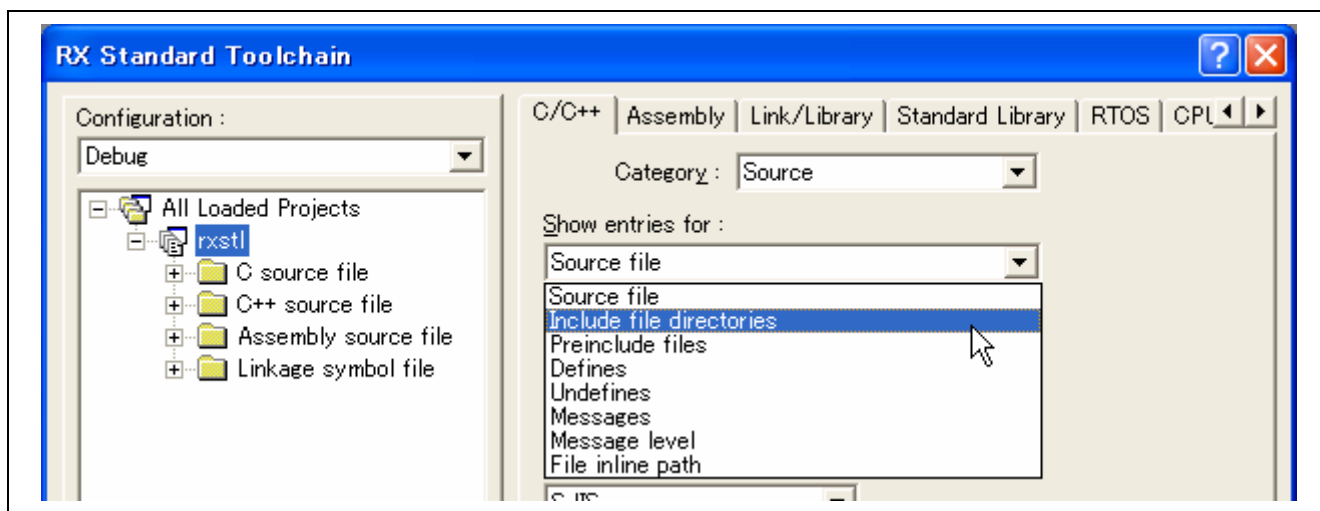
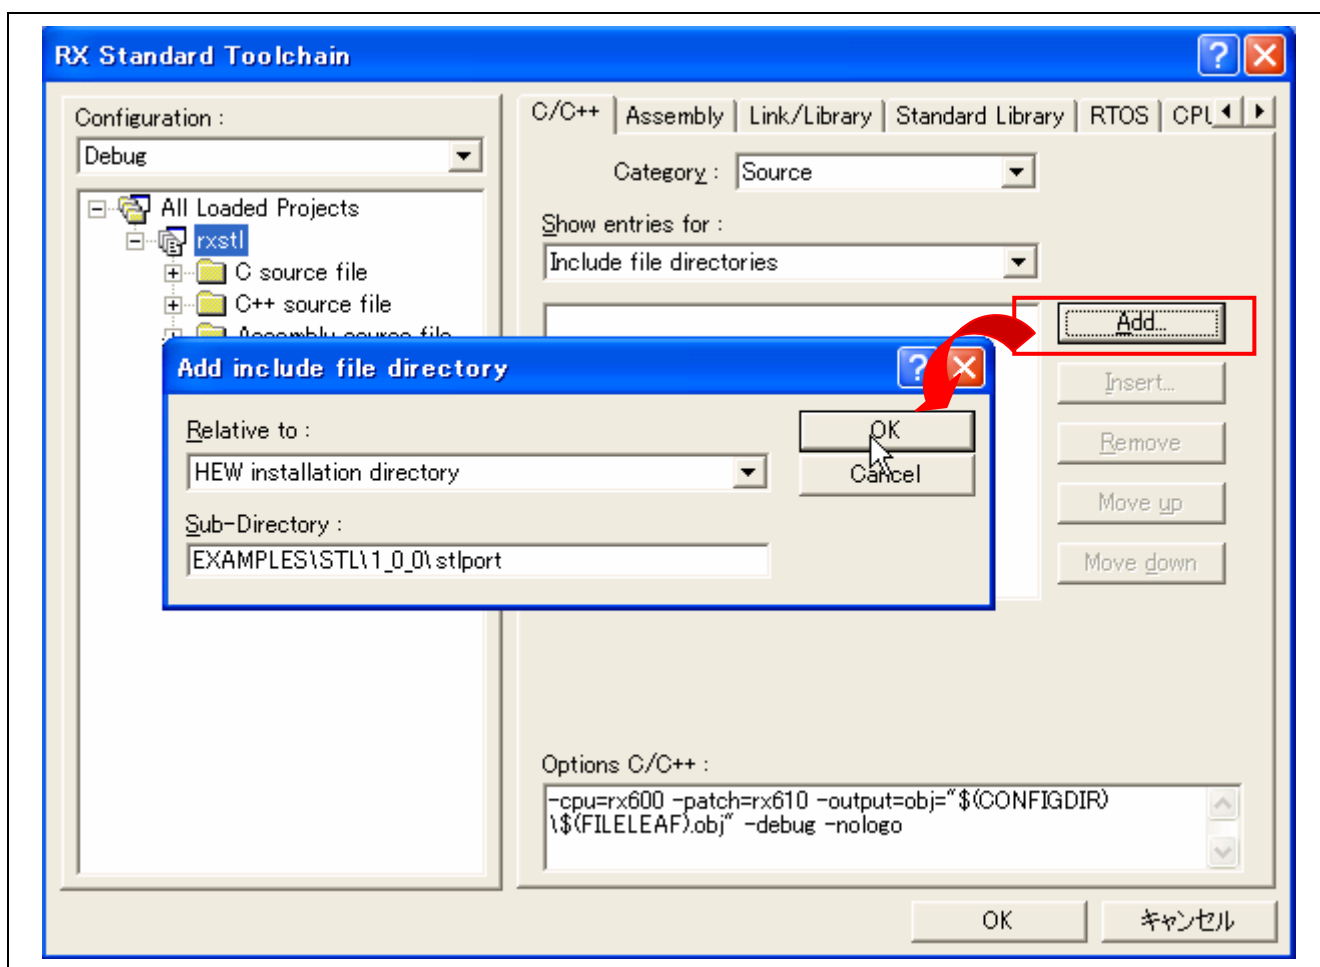

Figure 3 Position for Setting a Directory of Include Files
Figure 4 Example of Specifying the Directory
- (2) Open [Include file directories] from [Show entries for:] on the [C/C++] tabbed page in the dialog box (figure 3).
- (3) Click on the [Add...] button.
- (4) Select [HEW installation directory] as [Relative to:].
- (5) Enter 'EXAMPLES\STL\1_0_0\stlport' in [Sub-Directory:] and click on the [OK] button (figure 4).
- (6) Open the [Option dialog box] and check that '\$(HEWDIR)\EXAMPLES\STL\1_0_0\stlport' has been added.